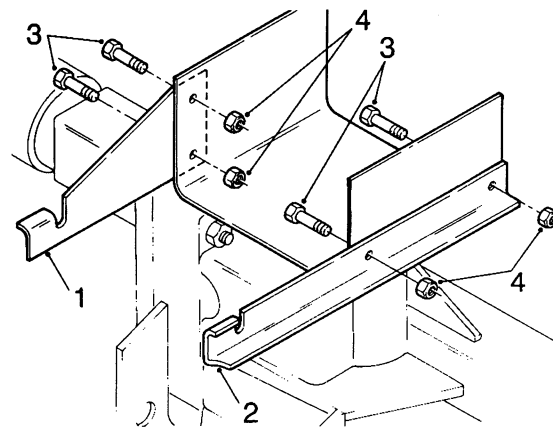

Figure 7
1. Remove the four frame bolts and nuts from the rear of the tractor (Fig. 7), and do not use them.
2. Install the two support brackets to the frame, using four $\frac{5}{16}$ " x $\frac{7}{8}$ " hex-head bolts and $\frac{5}{16}$ " nylon lock nuts (Fig. 7). The wide bracket must be on the left side and the narrow bracket on the right of the tractor frame.